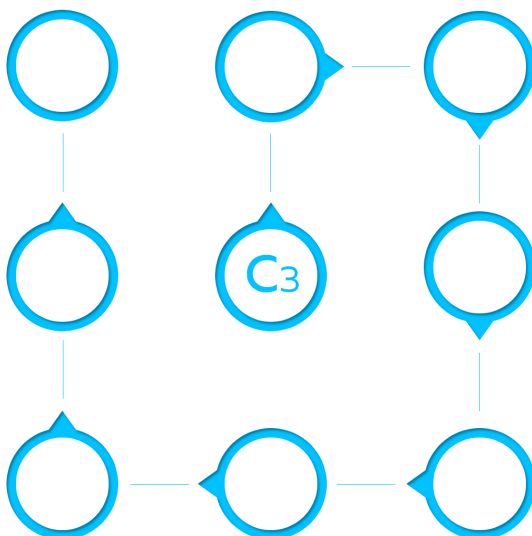

Fig. 50. Grid like pattern.
13. Deliver single pulse and observe muscle contraction (movement elicitation of finger or thumb). Try to move a coil about 2 cm around the reference point in a grid like pattern (Fig. 50). Each time you move a coil deliver a stimulus. If it is not seen any muscle contraction, gradually increase the intensity (5% step). Continue moving a coil increasing amplitude and delivering pulse till muscle twitch is observed visually.
2. Loosen the screw on holder arm and move the anterior rim of the coil to marked point (you have found it at step 1). (Fig.50). Keep the coil orientation.
4. Once the coil position has been fixed, the anterior rim of the coil should be marked on the cap (see Fig.50). It will be required for second and next visits.
9. Loosen the screw on holder arm and move the coil to the marked line on the cap (see Fig. 50). Make sure that the anterior rim of the coil matches the marked line.